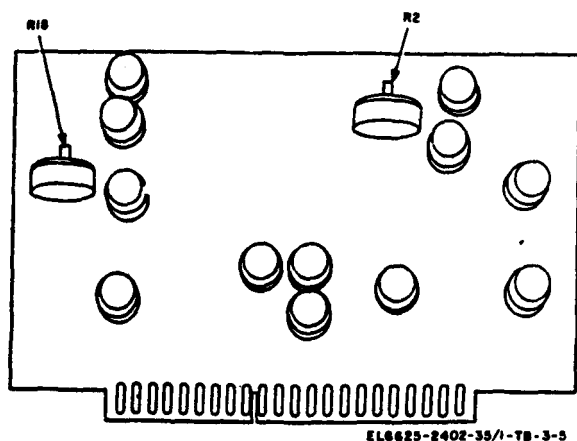

Figure 3-5. Component assembly A11.
(1) Repeat performance check steps (1) and (2).
(2) Adjust UUT R18 (fig. 3-5) for maximum dc deflection on oscilloscope.
(3) Repeat performance check step (4).
(4) Adjust UUT R2 (fig. 3-5) for maximum dc deflection on oscilloscope.
(5) Repeat performance check.